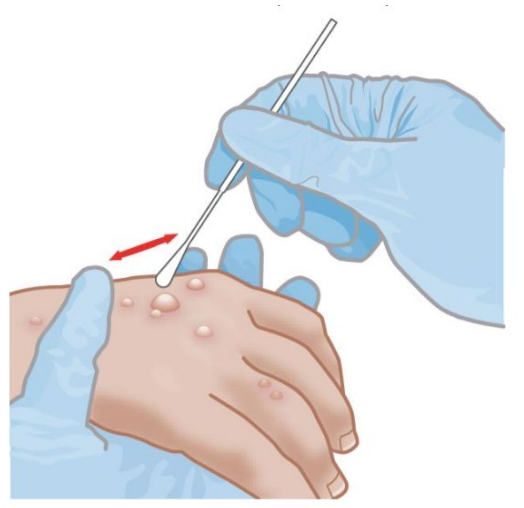

Figure 1. Lesion Swab Collection
1. Using a sterile swab apply firm pressure to the lesion and swipe the swab back and forth at least 2-3 times before rotating the swab and repeating using the other side of the swab. If the lesion ruptures while swabbing, ensure to collect the lesion fluid (See Figure 1).